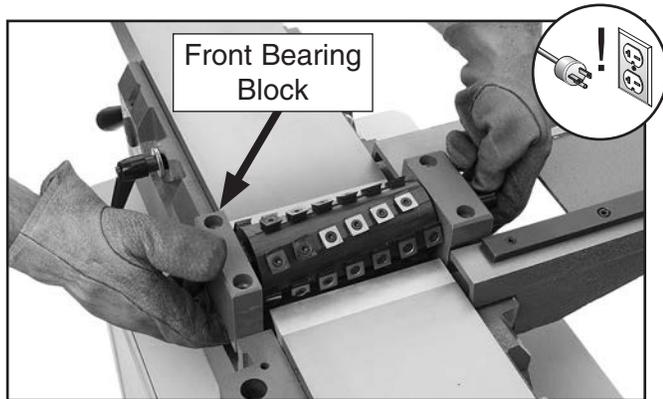

Figure 9. Example picture of a spiral cutterhead being installed (T27449 not shown).
19. While keeping the bearing blocks pressed against the spiral cutterhead, move the cutterhead to the jointer. Using the mark from **Step 9**, install the cutterhead so the front bearing block is positioned at the front of the machine (see **Figure 9**). Be careful not to chip the carbide inserts on the jointer beds.